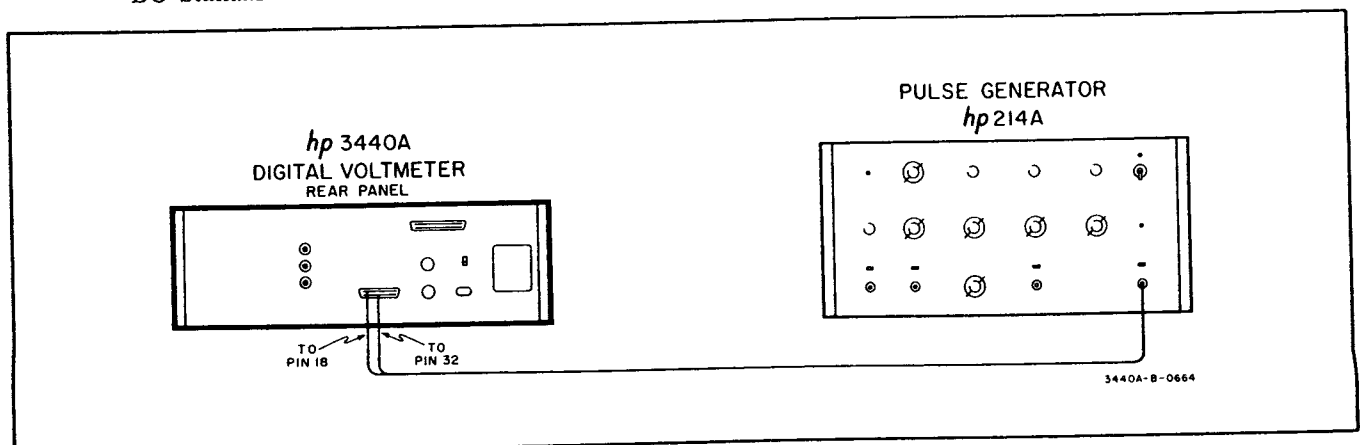

Figure 5-3. External Trigger Check
- Connect Model 3440A as shown in Figure 5-3.